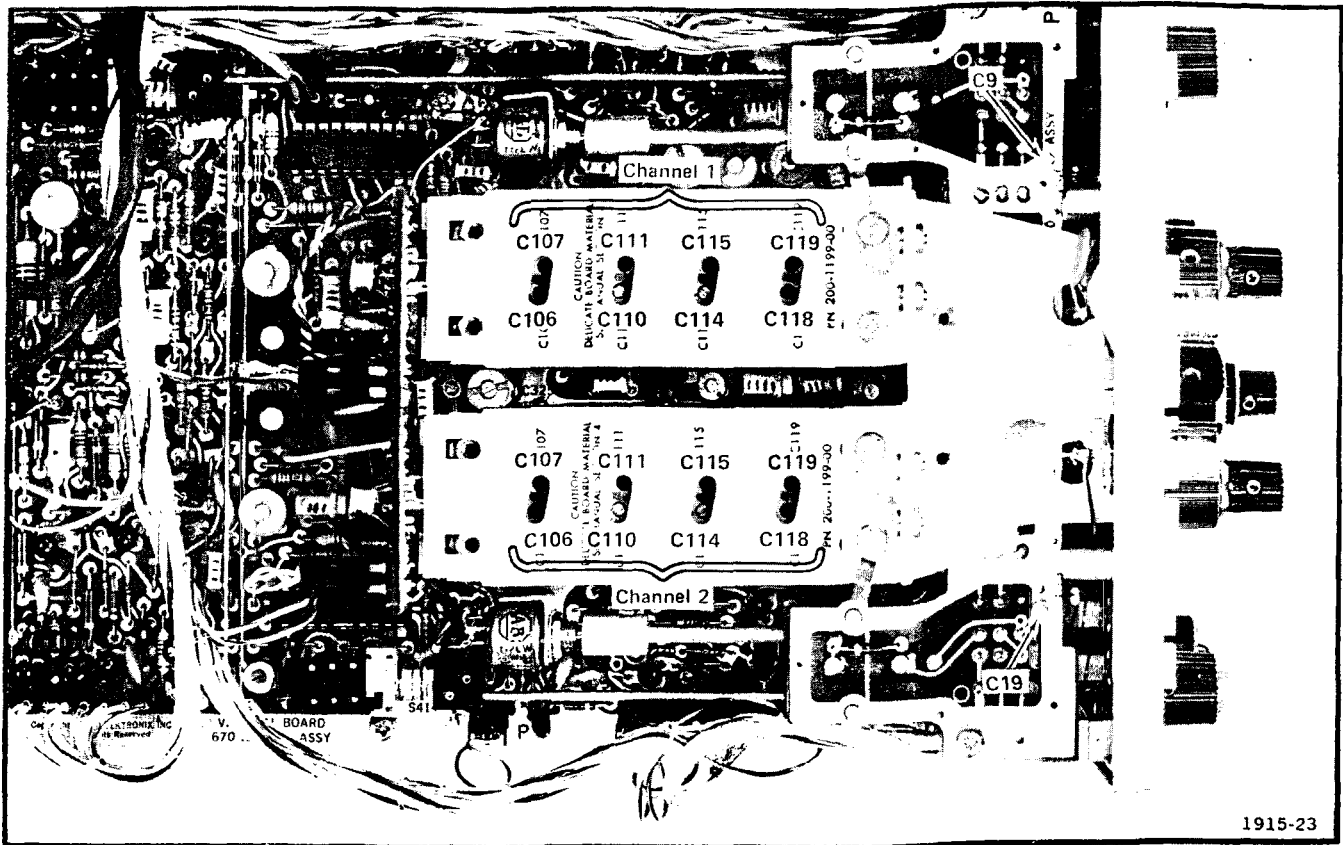

Fig. 5-5. Location of CH 1 and CH 2 Switch Compensation Adjustments.
f. ADJUST—Channel 1 VOLTS/DIV switch compensation as given in Table 5-2. Adjust for optimum square corner and flat top. Remove the 10X attenuator and/or 50 Ω BNC termination as necessary to maintain a 5-division display amplitude. Fig. 5-5 shows the location of the variable compensation adjustments.
e. ADJUST—Channel 2 VOLTS/DIV switch compensation as given in Table 5-2. Adjust for optimum square corner and flat top. Remove the 10X attenuator and 50 Ω BNC termination as necessary to maintain a 5-division display amplitude. Fig. 5-5 shows the location of the variable compensation adjustments.